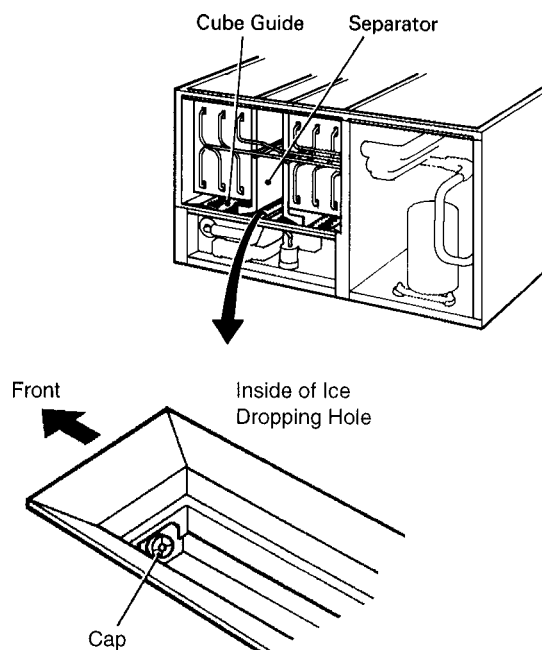

Fig. 14
- 7) Remove the Insulation Panel. Remove the Cap located on the front bottom part of the Ice Dropping Hole. Drain the Water Tank. See Fig. 14.
- 3) Remove the Insulation Panel. Remove the Cap located on the front bottom part of the Ice Dropping Hole. Drain the Water Tank. See Fig. 14.
5) Remove the Cap located on the front bottom part of the Ice Dropping Hole. Drain the Water Tank. See Fig. 14.